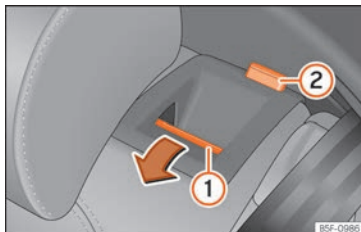

Fig. 121 Rear seat: folding the backrest.
- Press the unlock button » **Fig. 121** ① forwards and at the same time fold the backrest down. The rear seat backrest is not engaged when the red marking of the button ② is visible.
The rear seat backrest is not engaged when the red marking of the button » Fig. 121 ② is visible.